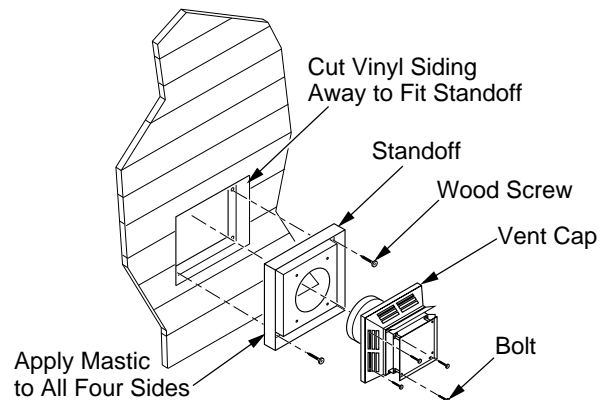

Figure 27 - Installing Vinyl Siding Standoff (Combustible Exterior Wall)
- If installing horizontal vent termination cap on an exterior wall with siding, you must use a vinyl siding standoff (see Figure 27, page 14).
**Combustible Exterior Wall:** For vinyl siding, stucco, or wood exteriors, a siding standoff must be installed between the vent cap and exterior wall. The siding standoff prevents excessive heat from damaging siding materials. Siding materials must be cut to accommodate standoff. Bolt the vent cap to the standoff. Apply non-hardening mastic around outside edge of the standoff. Position the standoff/cap assembly in the center of the 10" (25.4cm) square hole and attach to exterior wall with wood screws provided (see Figure 27). The siding standoff must sit flush against the exterior fascia material.